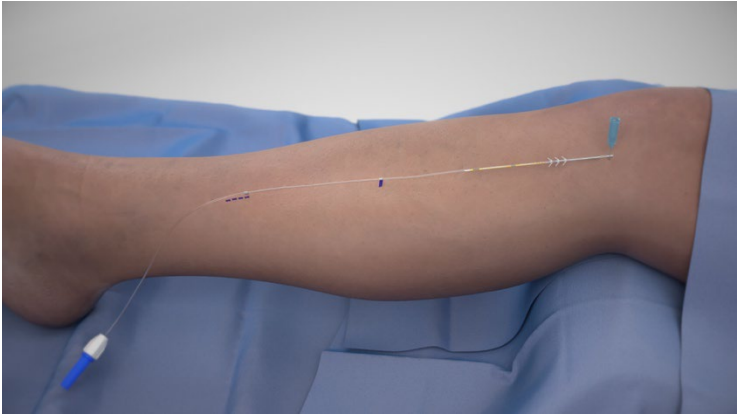

Figure 2
2. Place the electrode array on the sterile skin using the marker needle as a guide in fluoroscopic view. (Figure 2)
3. Place a mark at the first channel marker band (proximal to the electrodes) using a sterile marker, signifying the first incision site. Place another mark 1 cm past the receiver marker band to estimate the location of the pocket. (Figure 2)